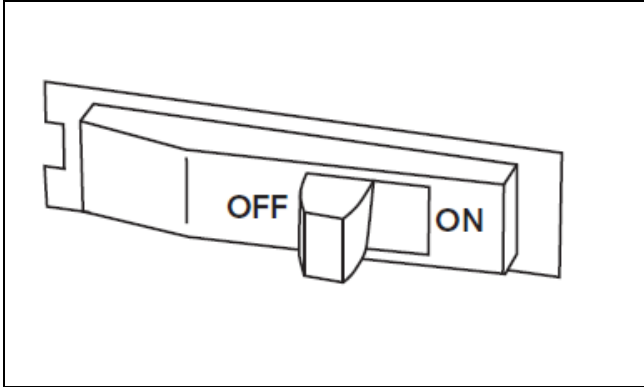

Figure 61
1. Ensure the breaker is switched off. See Figure 61.